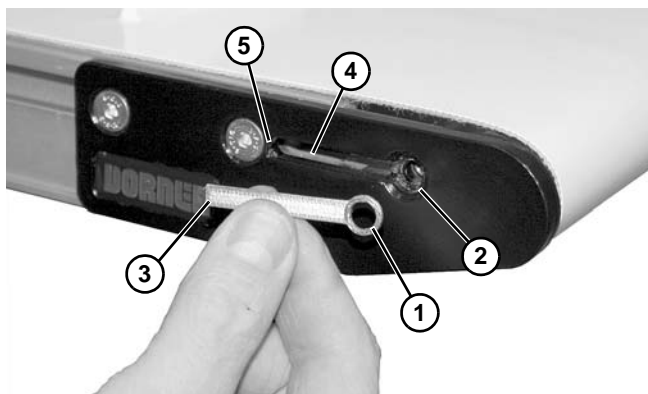

Figure 25
2. Install round end (Figure 25, item 1) of dust cover into recessed screw hole (Figure 25, item 2).
3. Insert flat end (Figure 25, item 3) of dust cover into access slot (Figure 25, item 4), making sure it rests against notch (Figure 25, item 5).